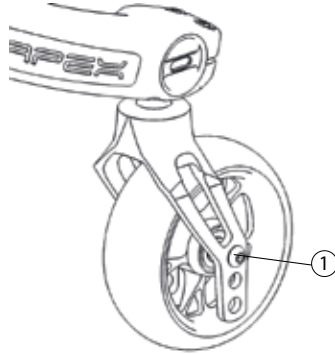

Fig. 21
- Loosen and unscrew (1) (Fig.21).
- Tighten screw (1) firmly.